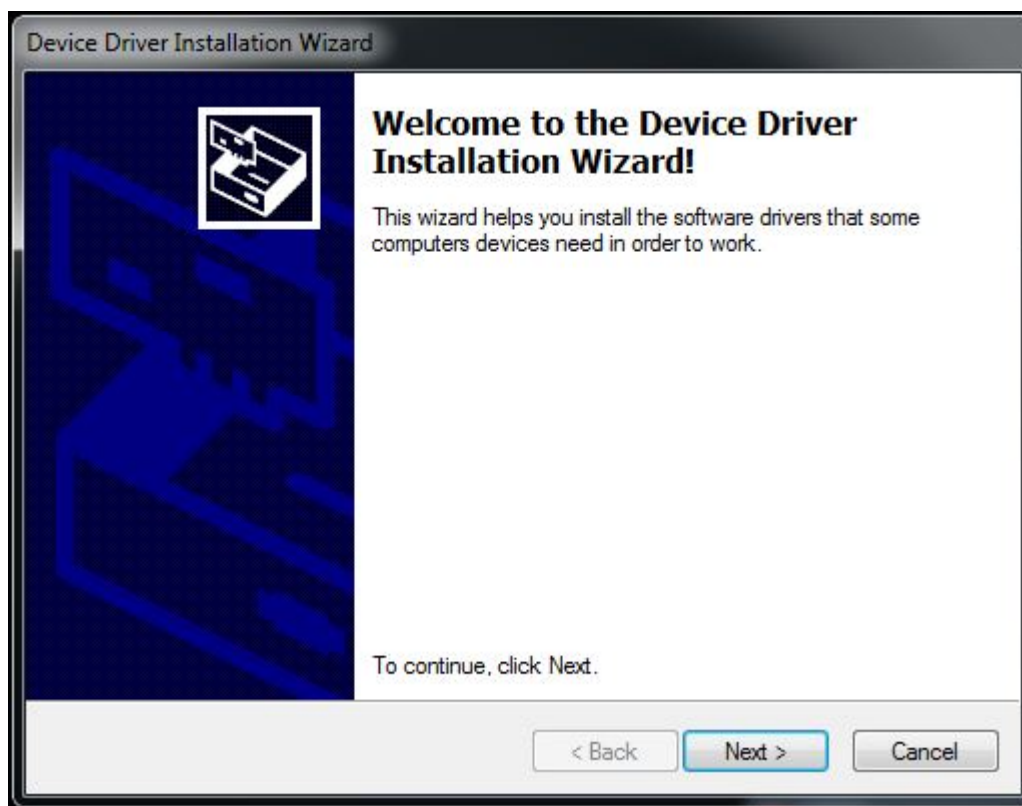

Figure 4. ADS7142 Driver Installation
3. As a part of the ADS7142 GUI installation, a prompt with a *Device Driver Installation Wizard* appears on the screen (see Figure 4). Click the *Next* button to proceed, then click the *Finish* button when the installation is complete.